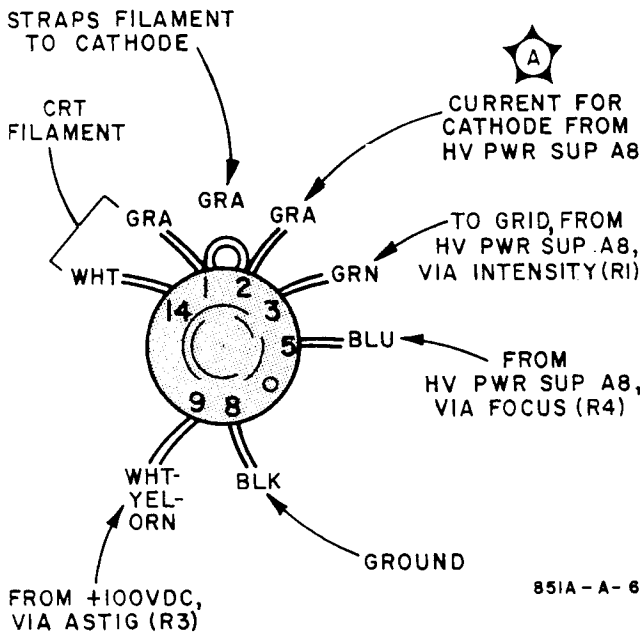

Figure 5-2. CRT Base as Seen from Rear, CRT Protective Cover Removed
- (1) Wiring to CRT base is shown in Figure 5-2. Note gray wire designated ; clip Milliammeter probe around gray conductor .